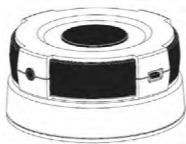

Figure 1 ZXT-120
The ZXT-120 is a Z-Wave to IR extender for air-conditioning (AC) devices, (Figure 1), it works with any Z-Wave compliant gateway or controller by translating Z-Wave Thermostat Commands to AC IR control code. User can select the IR code from the built-in code library of ZXT-120, or use learning function, by using Z-Wave Configuration Commands according to the parameter table. IR Extender also comes with built-in temperature sensor which allows gateway or controller to get the current room temperature.